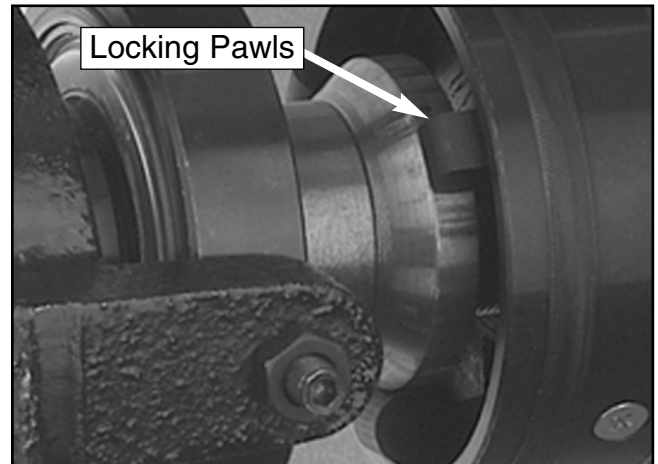

Figure 12. Locking pawls in locked position on the cam lobe.
1. Position the locking pawls so they are in the correct position on the cam as shown in **Figure 12**.
The Model G4034 Collet Closer is adjusted properly when the 3 collet locking pawls are tight on the cam and the workpiece will not twist in the collet. Again, **Figure 12** on **page 7** shows the proper locked position of the collet locking pawls around the cam.